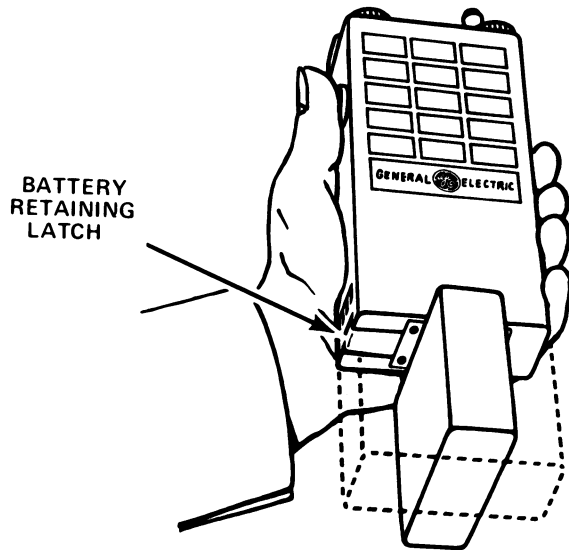

Figure 4 - Battery Pack Replacement
2. Press the battery retaining latch away from the battery pack as shown in Figure 4 and turn the battery pack one-quarter turn to the left. The battery pack can now be detached from the radio.
1. Hold the battery pack at a 90° angle to the radio as shown in Figure 4.